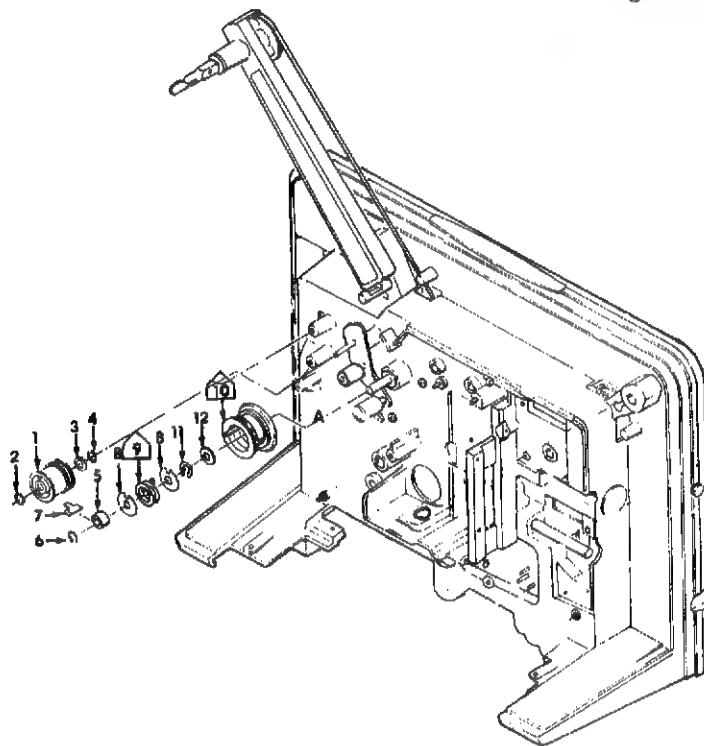
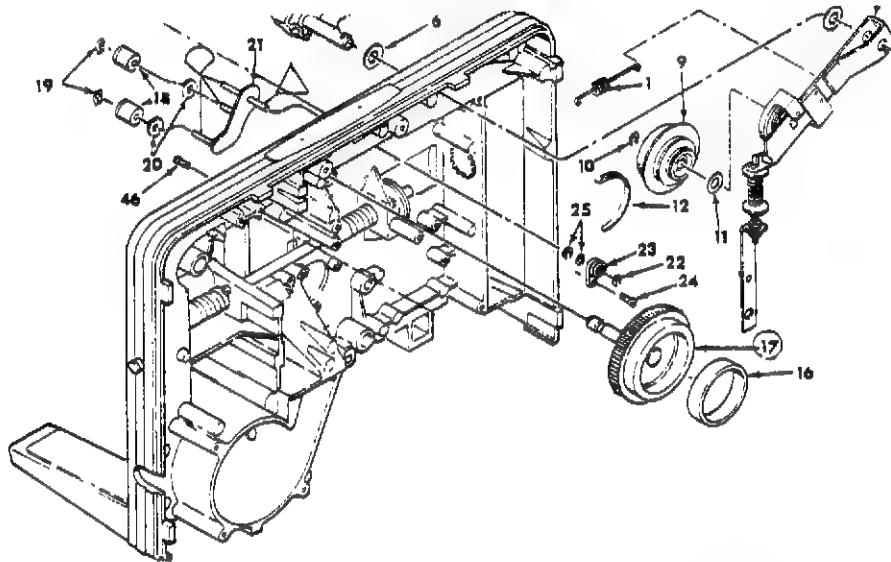

Figure 3-12 REMOVAL AND REASSEMBLY OF TAKE-UP SPROCKET
Figure 3-13. REMOVAL AND REASSEMBLY OF TAKE-UP GEAR
2. Remove the Grip Ring (6) and manually rotate the take-up Sprocket (10) clockwise slightly to move the sprocket Pin away from the stop (7). (Figure 3-12)
3. Grasp the Stop (7) with a pair of pliers and pull it straight out.
4. Slowly release your grip on the Sprocket (10) and allow the Spring (9) to unwind.
5. Remove the Spacer (8), Outside Washer (8), Spring (9) and Inside Washer (8). (The two washers (8) are usually removed easily with a magnet.)
6. Remove Grip Ring (11), Washer (12) and Sprocket (10).
7. Slide the Take-Up Gear out of the main casting bearing (Figure 3-13).
3. Assemble the sprocket (10) and the correct number of Washers (12) to allow for .003 to .007" end play of the sprocket (10) when the Grip Ring (11) is installed (Figure 3-12).
4. Install Inside Washer (8) and Spring (9). (The Spring (9) should be installed so turning the Sprocket (10) clockwise will tighten the Spring.)
5. Install Outside Washer (8) after lubricating the surface of the Spring (9) with Terreso Instrument Oil (39479-P8).